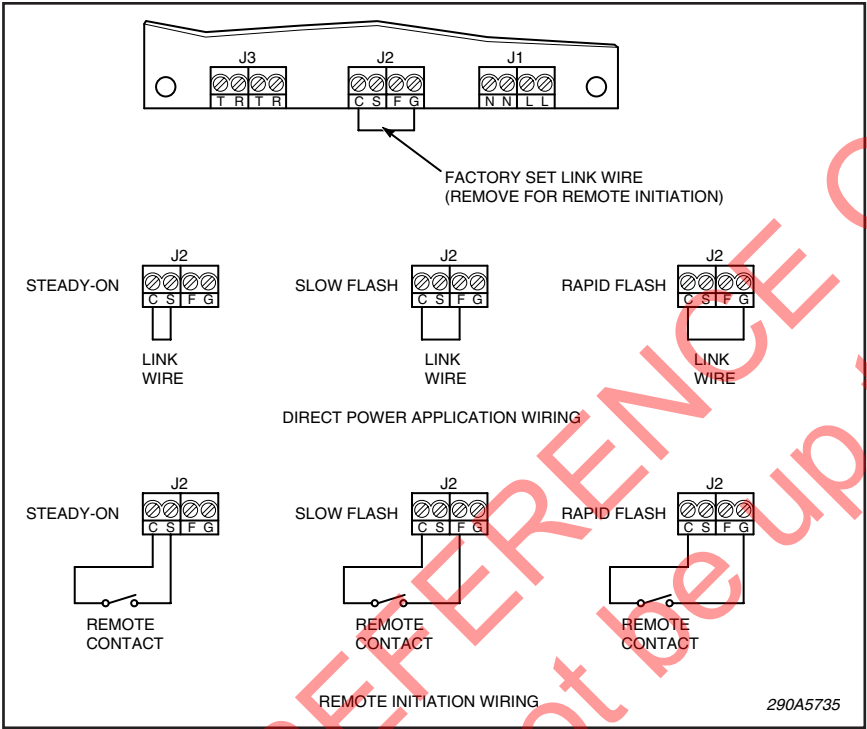

Figure 3.
b. Remove the factory link wire from the J2 terminal block. Connect remote activation wiring to the J2 terminal block as indicated in Figure 3 (Ex d) or 4 (Ex de). Remote activation is accomplished by applying a dry contact closure at the J2 terminal block between the C terminal and one of the S (steady), F (slow-flash), or FF (rapid-flash) terminals.
b. Unit is factory set to rapid flash mode by the link wire located on the J2 terminal block. If a different operating mode is desired, move one leg of the jumper to the desired position as shown in Figure 3 (Ex d) or 4 (Ex de).